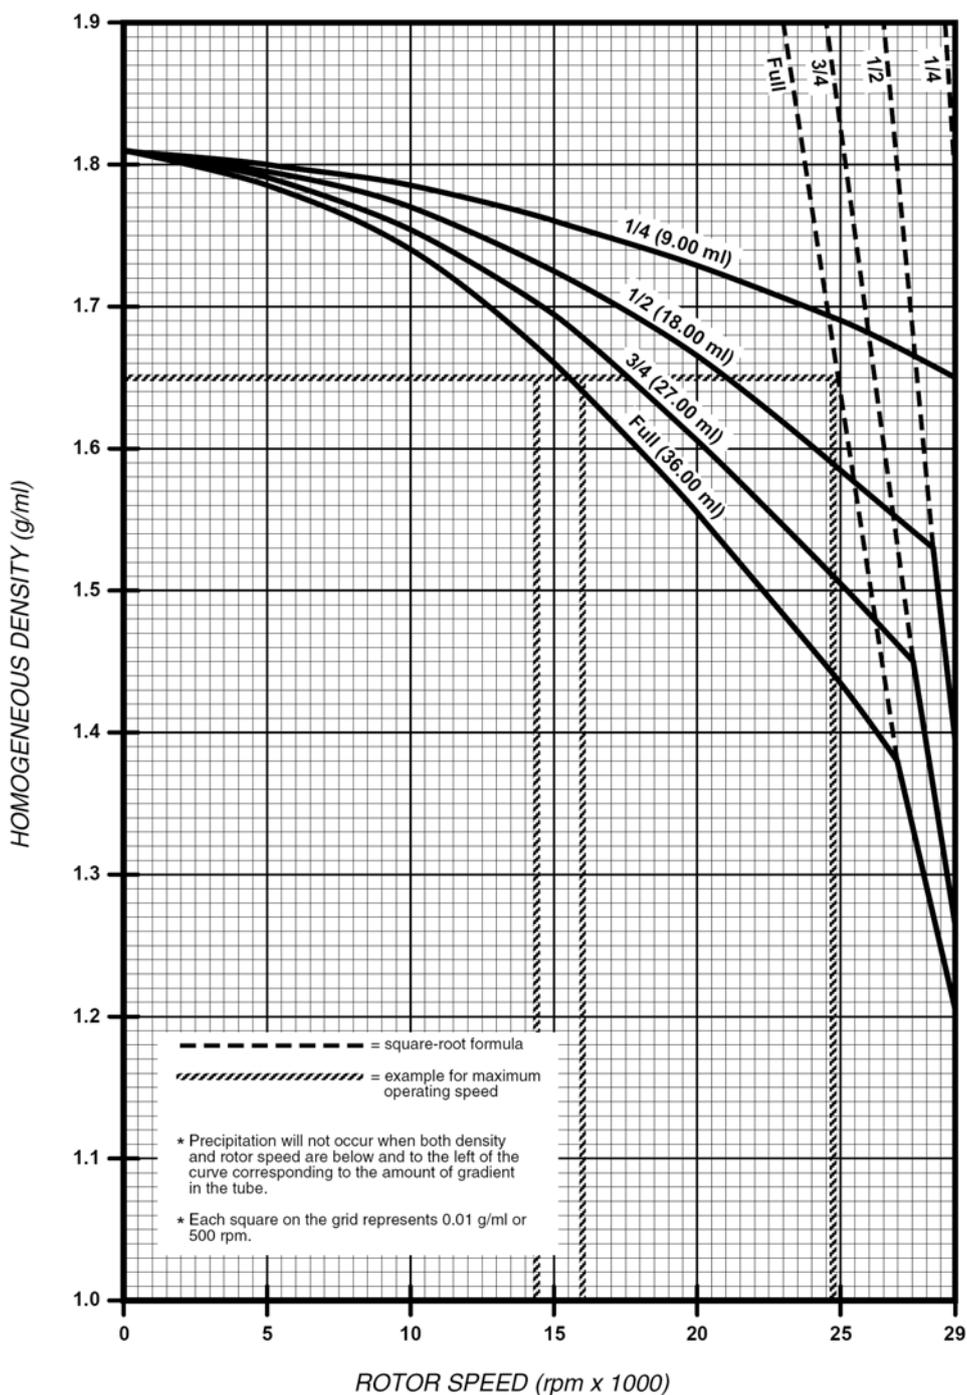

Figure 2-5. CsCl Precipitation Curve, 36 ml Buckets, 5°C
- 15,600 rpm at 5°C using 36 ml buckets (Figure 2-5)
- 17,500 rpm at 5°C using 36 ml buckets (Figure 2-5)